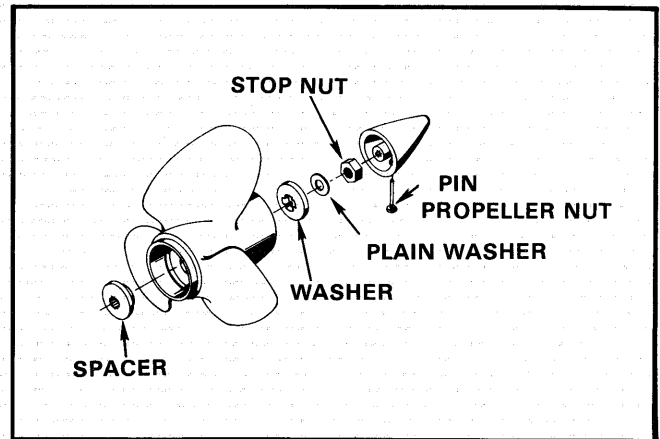

Figure 2—Propeller Order of Assembly
- F. Install propeller as shown in figure 2.